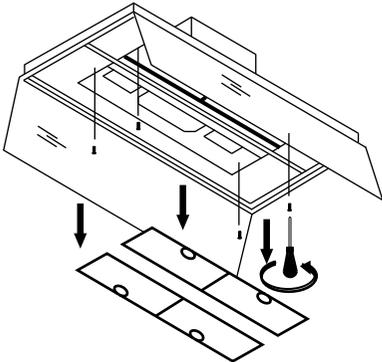

Fig 8
2. Remove the grease filters and unscrew the 4 screws holding the cover to the body (Fig 8).